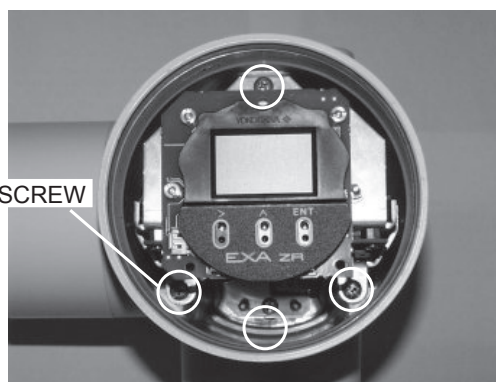

Figure 11.6 Location of Screw
- (2) Remove the three screws that are located toward you, among the four screws shown in Figure 11.6. Loosen the remaining one.
- (3) Move the electronics up to remove it.